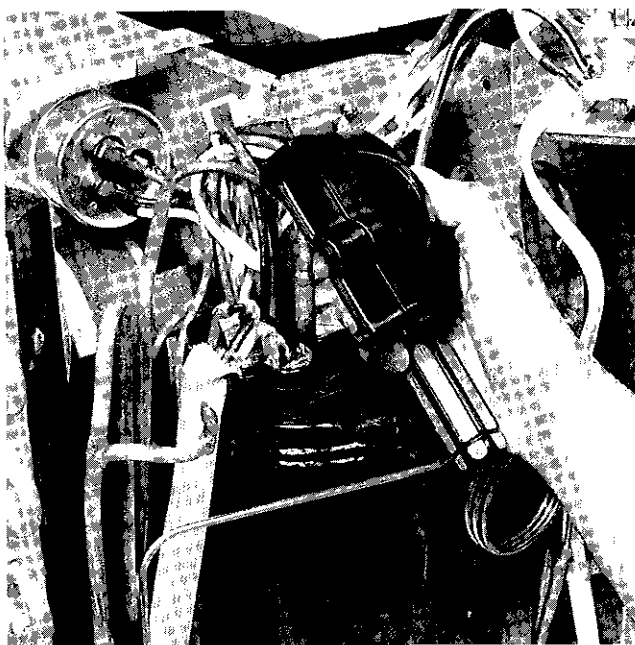

Fig 21 — Removing Compressor Terminal Cover
- a Remove compressor terminal cover. See Fig. 21